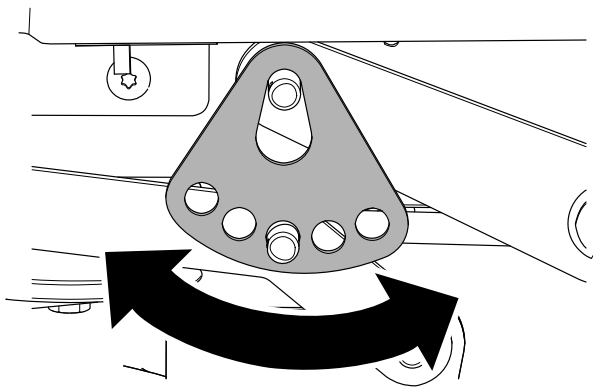

Figure 61
7. Rotate the height-of-cut plate to a different hole so that it supports the weight of the mower deck after you install the plate (Figure 61).
8. Install the washer and hairpin cotter (Figure 61).